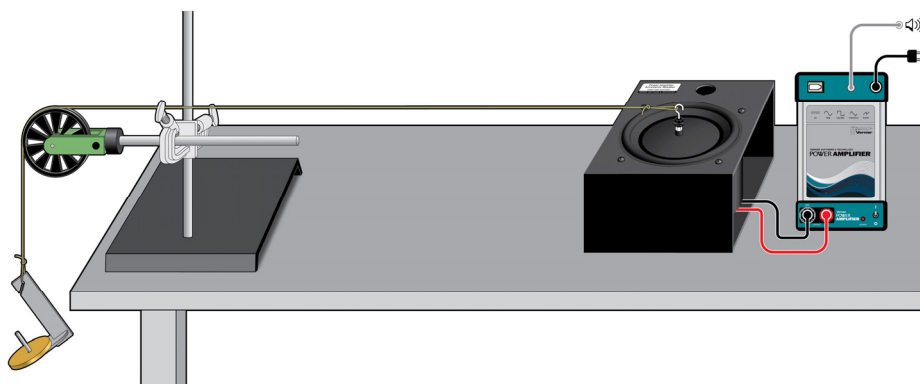

Figure 3
- Tie one end to the hook on the speaker and the other end to a very light mass hanger. Suspend the string over a pulley, as shown in Figure 3. Use the lightest masses you have available to keep the string from sagging. Measure the length of the string between the hook and the point of contact with the pulley.